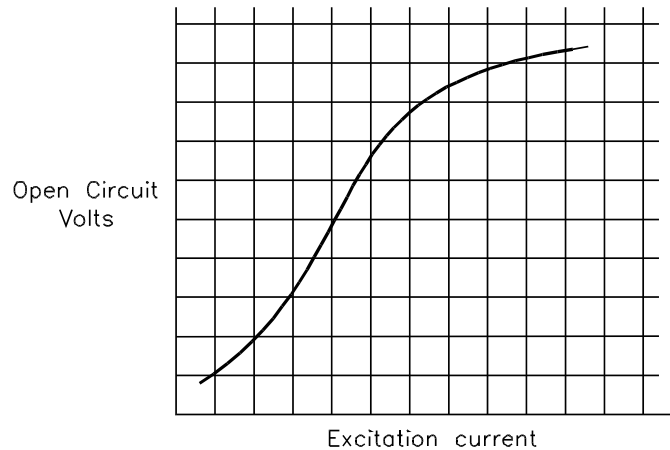

Figure 62
56. Figure 62 shows a d.c compound machine with interpoles.